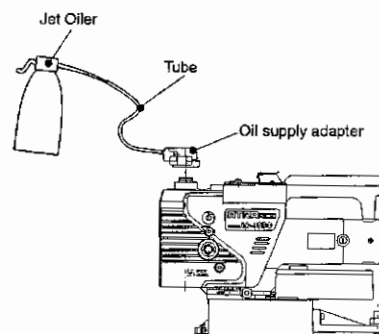

Fig. 18
- (4) Jet Oiler squeeze bottle is available as the optional accessory. Use as follows: Remove the tank container from the unit body. Mount the optional oil supply adapter, tubes, and the Jet Oiler all connected as shown in Fig. 18. Fill up cutting oil into the Jet Oiler.